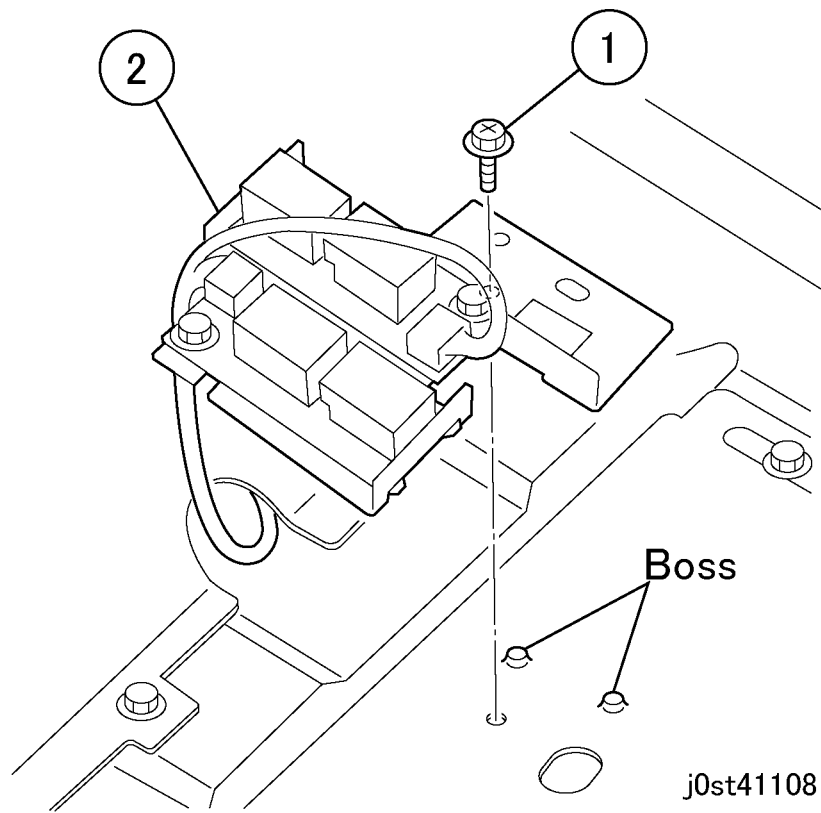

Figure 1 Removing the APS Sensor (j0st41108)
2. Remove the APS Sensor. (Figure 1)